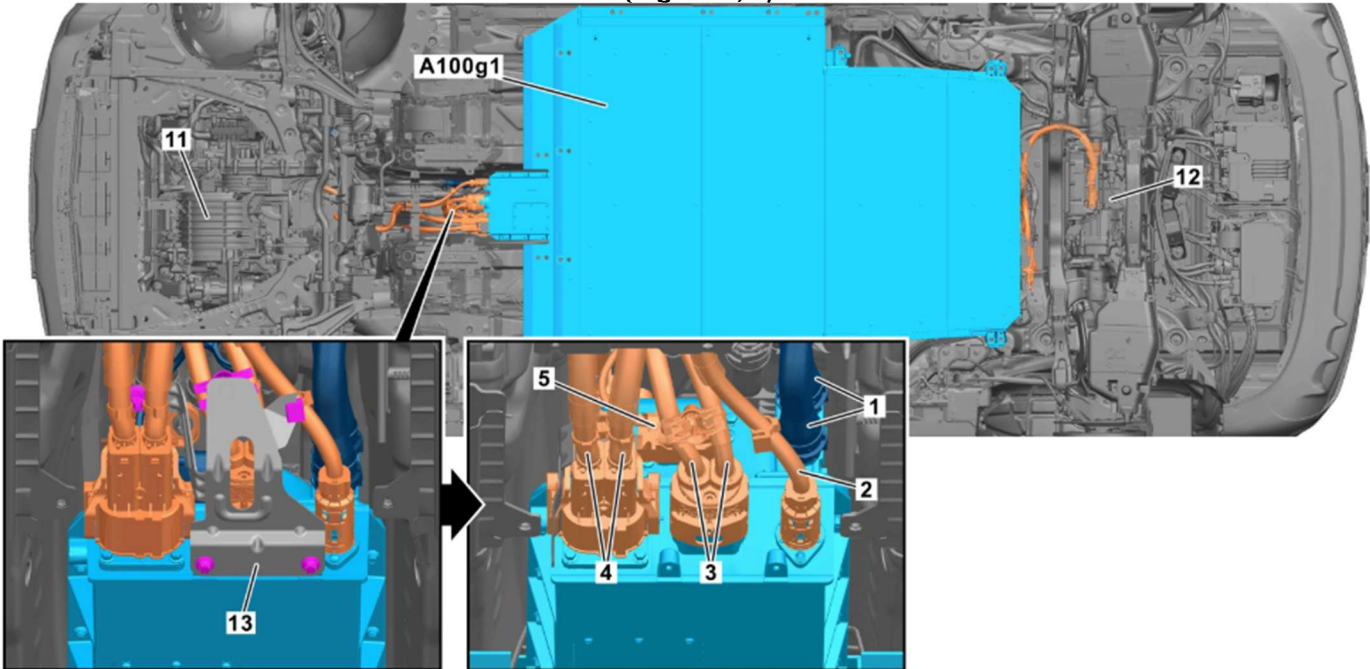

Figure 2
8. Disconnect coolant lines (**Figure 2, 1**) – clamp off hoses as close to HV battery as possible!
10. Open clamps on coolant lines (**Figure 2, 1**) and drain coolant
11. Unclip HV lines at bracket (**Figure 2, 13**) and remove bracket (**13**)
12. Remove HV plugs of HV lines (**Figure 2, 2, 3 & 4**) AR47.70-P-0005-01EQ
NOTE: Pay close attention to electrical connector **Figure 2, 4**. The locking mechanism can break if not fully released and will require the harness to be replaced. This will not be covered under this campaign.
13. Release and disconnect electrical connector (**Figure 2, 5**).
41. Attach high-voltage plugs of high-voltage lines (Figure 2, 2, 3, 4) and torque to specification. **BA47.70-P-1012-01A**